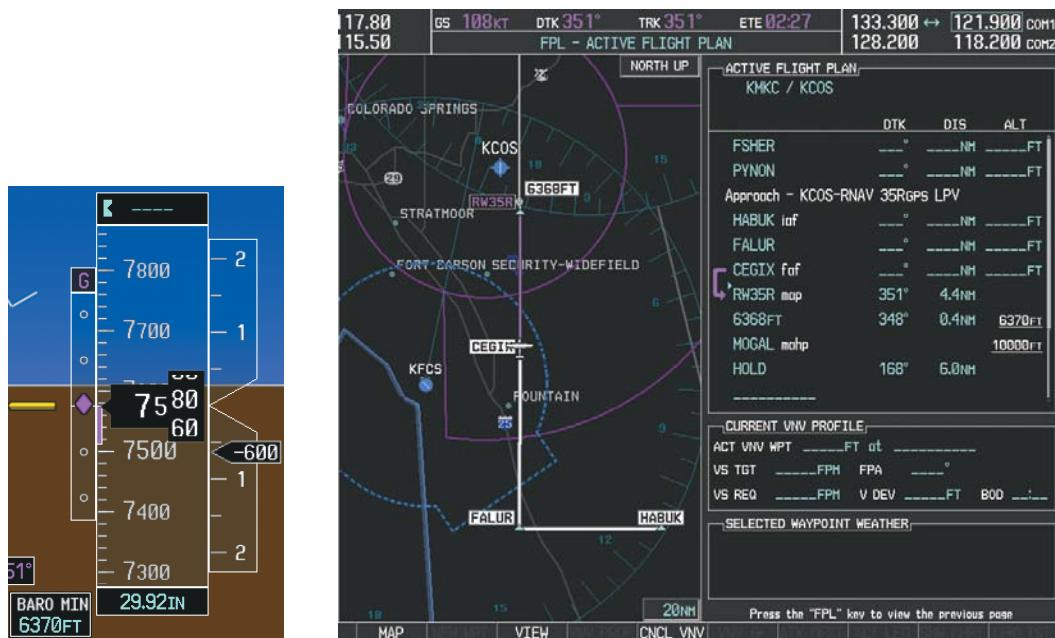

Figure 5-142 Descending to the Missed Approach Point
- 24) After crossing CEGIX, the aircraft continues following the glidepath to maintain the descent to "AT or ABOVE" 6,370 feet at the Missed Approach Point (MAP) (RW35R) as seen in Figure 5-142.